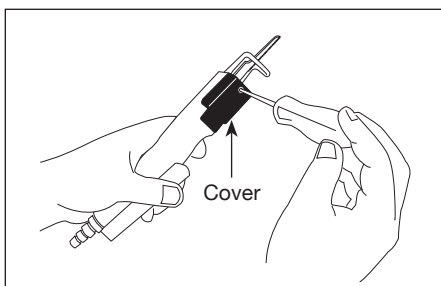

Figure 3
2. Use a Phillips head screwdriver to loosen cover screw (Figure 3).